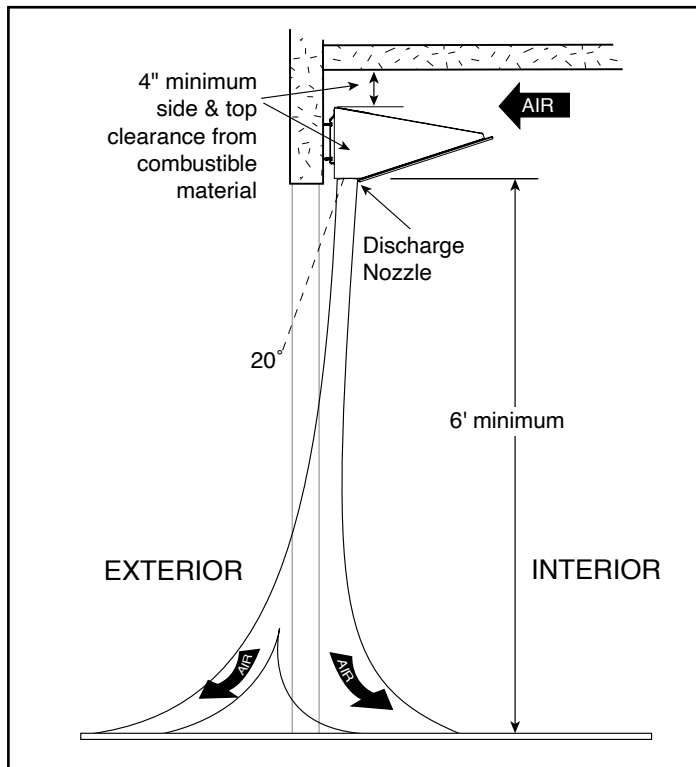

Figure 2 - General Mounting
- A. When determining the mounting location for the air curtain(s), make sure that nothing interferes with the curtain of air developed when the discharge vanes are directed from 0° to 20° toward the door opening. If the air stream strikes any obstruction (the top edge of the doorway, a door opening device, etc.), the effectiveness of the air curtain will be greatly reduced. **See Figure 2.**